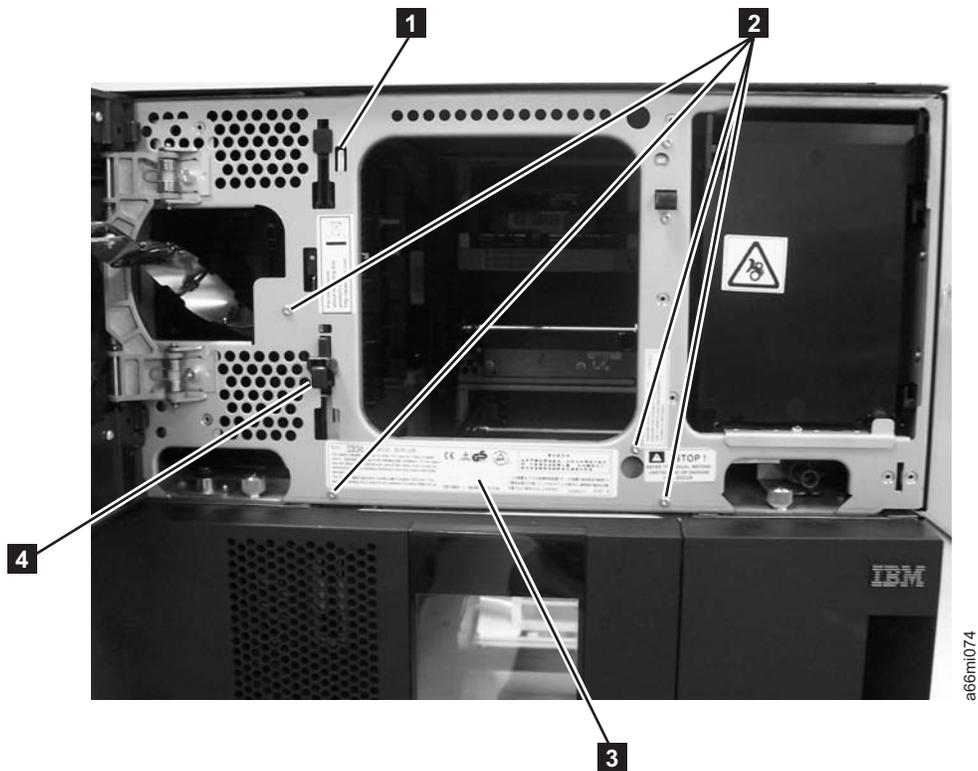

Figure 8-56. Front gear rack
3. There is a small metal tab in the chassis frame ( **1** in Figure 8-56 on page 8-59) that prevents the gear rack from falling down too far when the locking mechanism is released. Bend the tab out slightly so the gear rack can be removed.
4. Slightly push up and pinch the gear rack locking mechanism to unlock the front gear rack ( **4** in Figure 8-56 on page 8-59).
5. While pinching the gear rack locking mechanism ( **4** in Figure 8-56), push the gear rack down, then release your hold on the locking mechanism.